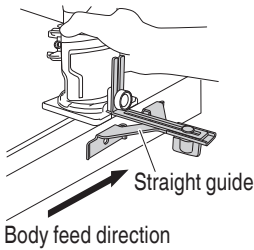

Fig. 21
- (3) As shown in Fig. 21, securely attach the bottom of the base ass'y to processed surface of the materials. Feed the trimmer while keeping the guide plane on the surface of the materials.